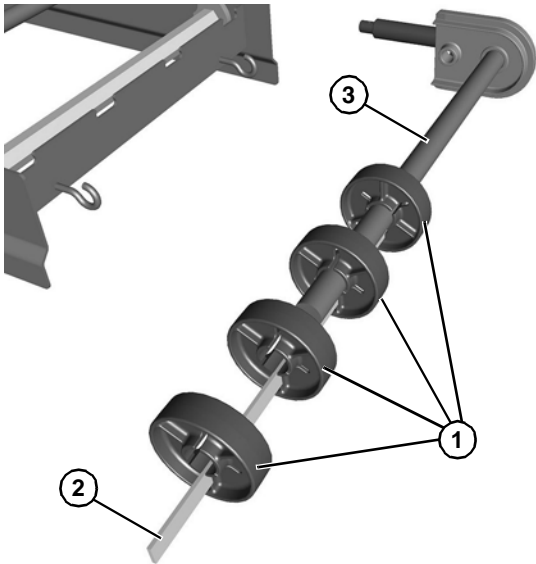

Figure 67
- Slide the pucks (**Figure 67, item 1**) and alignment bar (**Figure 67, item 2**) off the idler shaft (**Figure 67, item 3**).